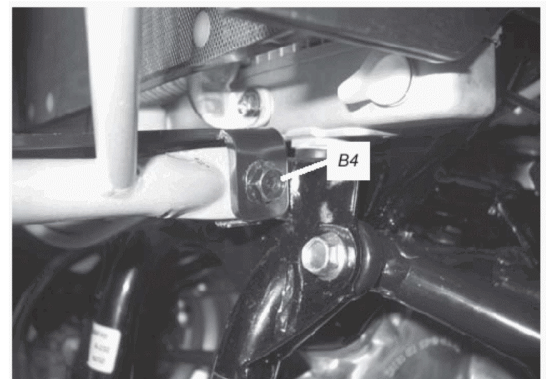

Figure 8 Install New Supplied 8mm Bolts
- If your ATV is a Rubicon you can now place the front bumper with attached winch assembly back onto the ATV frame. Reinstall the (4) bolts that were removed in steps 4 & 5. Do not tighten at this time.
- Install the supplied 8mm bolts, “Figure 8”, into the middle bumper mounting location, Step 6. Do not tighten at this time.